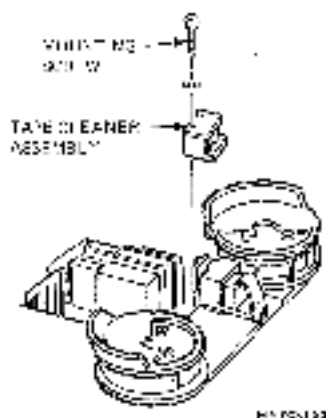

Figure 4-4 Tape Cleaner Assembly
2. Loosen the two mounting screws and remove the cleaner assembly from the tape deck (Figure 4-4).